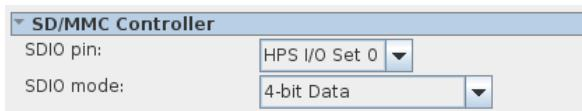

Figure 9-9. SD/MMC configuration
- Configure “SDIO pin” to “HPS I/O Set 0” and “SDIO mode” to “4-bit Data”, as shown in Figure 9-9.